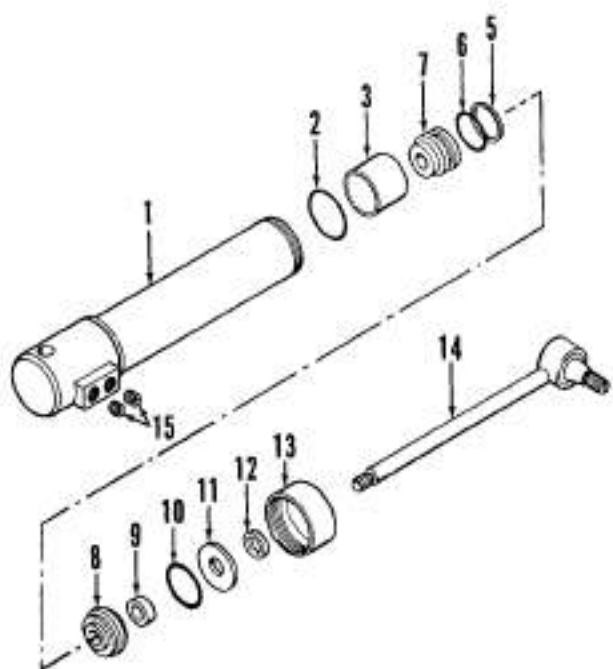

Fig. 19—Exploded view of steering control valve used on Models MF240 and MF250.
16. OVERHAUL CONTROL VALVE. To disassemble removed unit, remove snap ring (16—Fig. 19), washers and felt seal (15). Remove end cover mounting screws, then withdraw valve spool (7) assembly with end cover (2) and yoke (1). Unscrew yoke from spool and separate springs and washers from spool. Tap bypass valve piston (10), ball (12) and spring (13) from valve body. Remove relief valve spring and ball (17). Inspect all parts for wear or damage and renew if necessary. Renew all "O" rings when reassembling. Valve spool and body are available only as a matched set.